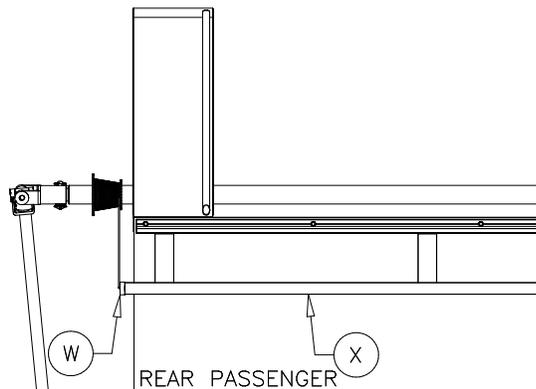

Figure 7
Installing cable onto rear beveled pulley: Pull the cable from the rear holdback system (X) (see Figure 7) towards the rear beveled cable pulley stamped "FRONT STANDARD". Insert the cable end into the pulley slot and rotate the pulley 1 3/4 of a turn. Rotate the pulley from the underside of it on the large diameter. Properly position the beveled pulley on the rolltube so that small diameter on the pulley is in line with the plastic cable guide (W) (see Figure 7). Tighten the 1/4" set screws (B) to hold the pulley in place.